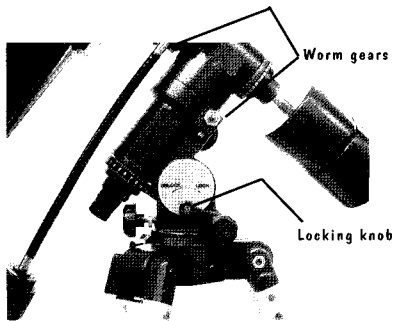

Fig.6 Locking knob on the equatorial mount.
4. Before any adjustments are made make sure the locking knob on the mount is tight (**Fig.6**).
5. The counter weight shaft should now be screwed into the mount with no weight attached. This is done by turning the shaft in a clockwise movement whilst pushing it into the hole on the mount. (**fig.6**). The safety screw on the axis should now be removed so you can slide the weight/s up the shaft. Make sure you tighten the counterweight knobs (**Fig 7**). Replace the safety screw back on the shaft. The weights will be positioned accurately later.
6. The slow motion knobs now need to be fitted to the mount. You will find the two knobs have to be located on the worm shafts (Fig.6/8). You do this by sliding the two knobs on either worm shaft. (Fig.8) shows how the R.A knob should appear once fitted.